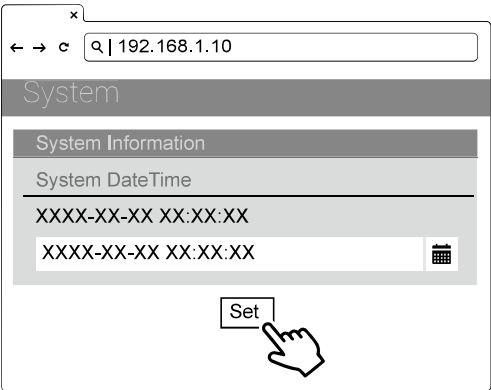

Figure 42. Set Date/Time
5) Select SET and wait until seeing the completion window appears. See figure 42.